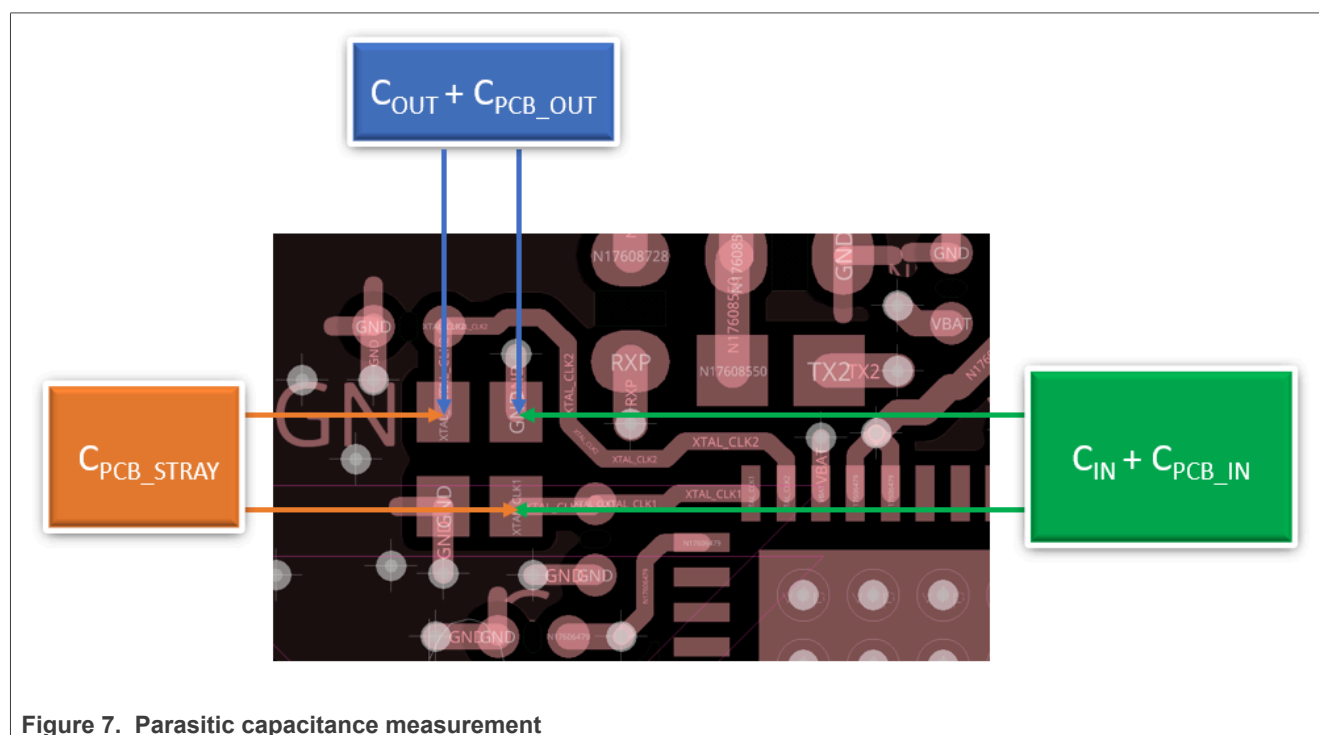

Figure 7. Parasitic capacitance measurement
- Measure the parasitic capacitance on the PCB as shown in Figure 7. For optimal measurement results, place the probes as close as possible to the XTAL pads.